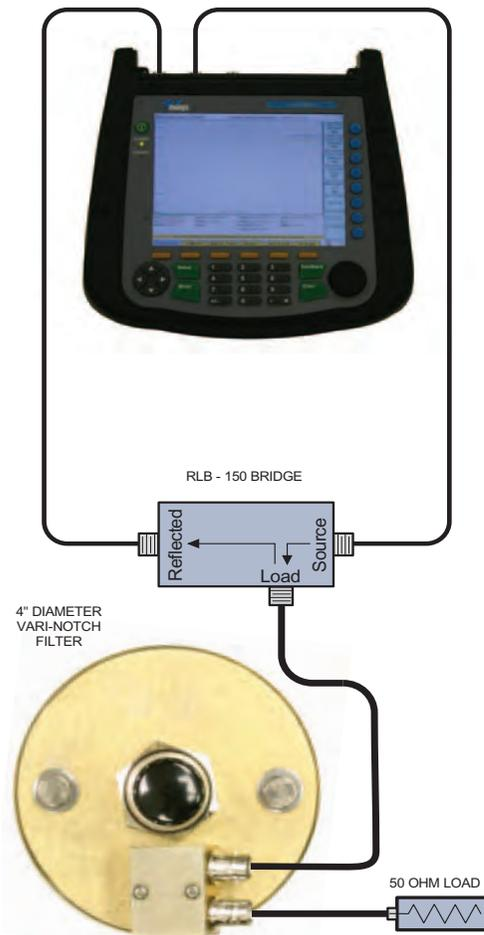

Figure 4: Checking the passband.
7. Connect the "load" port on the RLB to one of the input / output ports and make sure the remaining port is connected to a 50 ohm load; refer to **Figure 4**. The display will now present the return loss curve for the 4" Vari-Notch filter being measured. **The passband is that frequency range over which the return loss is 15 dB or greater.**